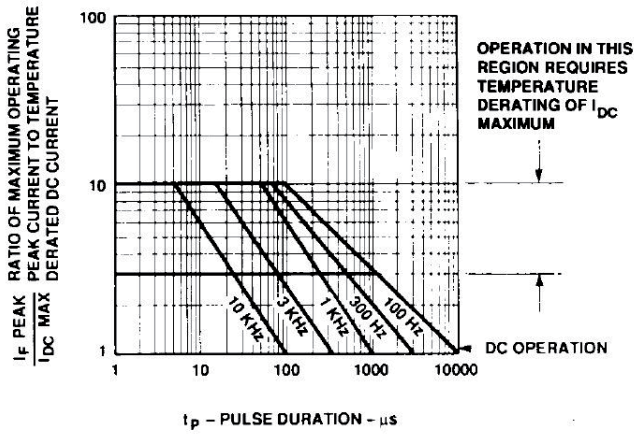

Figure 6. Maximum Tolerable Peak Current vs. Pulse Duration – HER Series.
3. See Figure 6 to establish pulsed conditions.